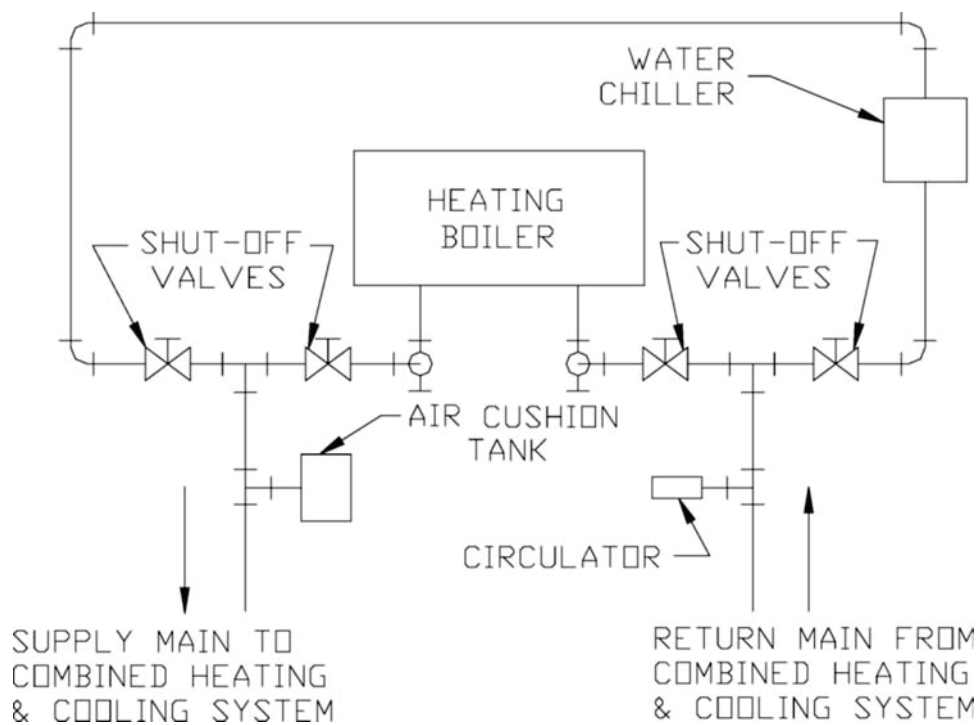

Figure 9.11: Chiller Piping
- 2) Piping with a Chiller - If the boiler is used in conjunction with a chiller, pipe the boiler and chiller in parallel as shown in Figure 9.11. Use isolation valves to prevent chilled water from entering the boiler.